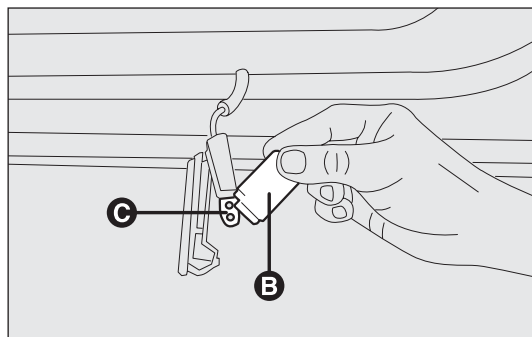

fig. 187
- ☐ press the sides of bulb shield B-fig. 187 on the two fastening pins and turn it;